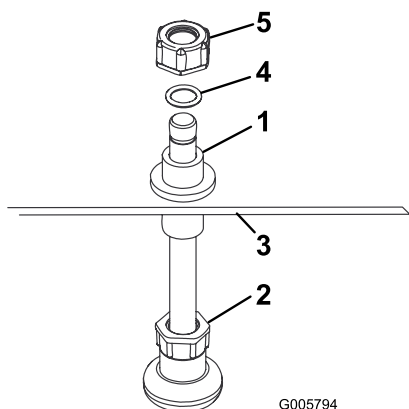

Figure 17
4. Install assembled rinse nozzle and tube up through the bulkhead fitting installed in the main tank (Figure 17).
5. Install the small, black O-ring and large retainer nut, which you previously removed, over the top of the **un-threaded** end of the rinse tube protruding from the bulkhead fitting (Figure 17).